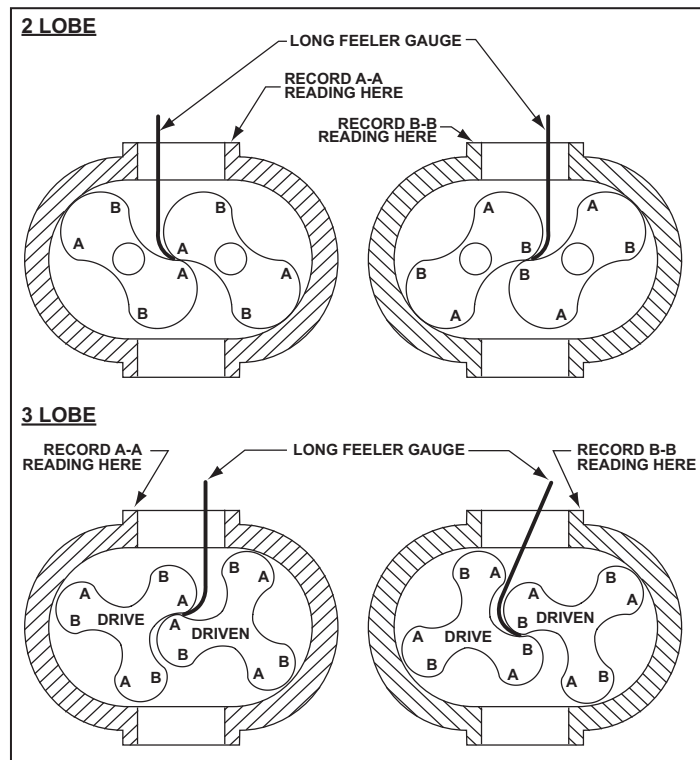

Figure 14 - Checking Rotor Interlobe Clearance
32. Lay the unit down with the drive gear on the left. Using feeler gauges take interlobe readings and record on each side of housing as indicated in Figure 14. By removing or adding shim behind the helical gear, it rotates as it is moved in or out and the driven rotor turns with it, thus changing the clearance between rotor lobes. Changing the shim thickness .006" (.16 mm) will change the rotor lobe clearance .003" (.08 mm) or one-half the amount.
EXAMPLE: Referring to Figure 14, check the clearance at AA (left hand reading) and BB (right hand reading). If AA reading is .003" (.08 mm) and BB reading is .009" (.24 mm), by removing .006" (.16 mm) of shim, the readings will change one-half the amount removed or .003" (.08 mm). AA should then read .006" (.16 mm) and BB should read .006" (.16 mm). The final reading should be within .002" (.05 mm) of each other.